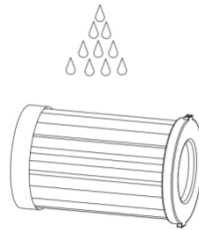

Figure 18
4. Use a scrapped toothbrush or other small brush to remove the dust from the gap of the HEPA filter, or tap the HEPA filter lightly to clean up the dust. If necessary, use clean water to clean the HEPA filter (Figure 18), then dry naturally before install it in the machine for use.